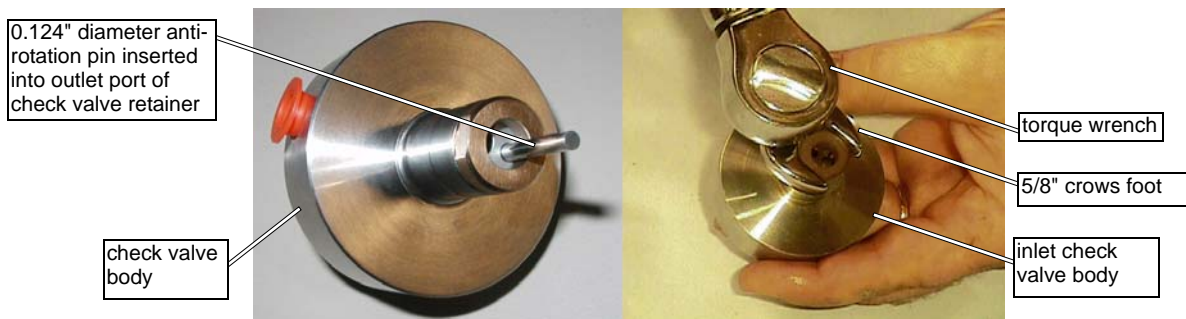

Figure 5-30: Installing the Inlet Retainer Nut
15. Apply a light coat of Lubriplate to the 0.124" diameter anti-rotation pin and insert it through the outlet port of the Check Valve Retainer and into the Check Valve Body. Clamp the outside diameter of the Check Valve Body in the soft-jaws of a vise and torque the Retainer Nut to 200 in-lbs (22.6 N·m) using a 5/8" crows foot (Figure 5-30):